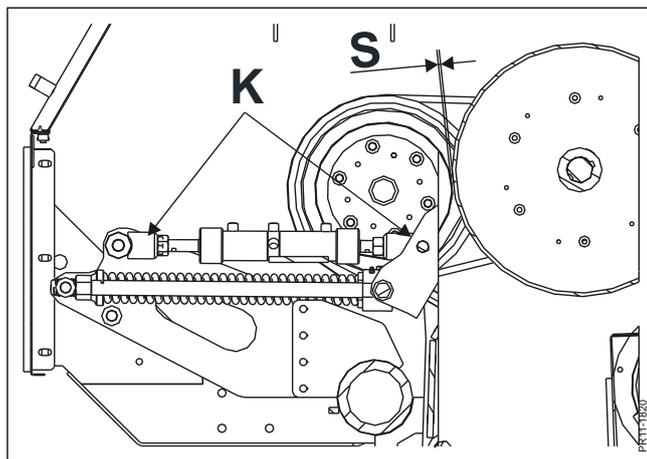

Fig. 4-33
**Fig. 4-33** In neutral position, with a new rubber disc, the distance between the rubber disc and the steel friction disc should be approx.  $S = 0-1$  mm. Adjustment of the neutral position is made at the end pieces **K** of the cylinder. It is not necessary to adjust in case of wear of the rubber disc.